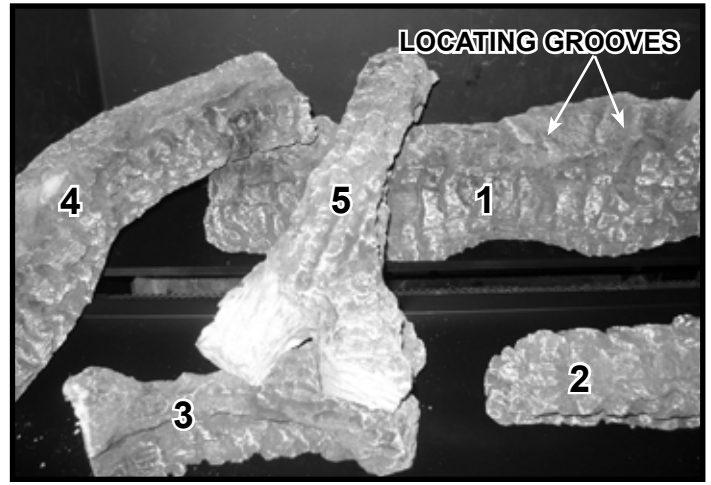

Figure 12. Log #5 (1st of 2)
**Log #5 (SRV2033-720):** Log #5 is used twice in this log set. The left log is located by placing the “Y-Shaped” end on the locating grooves of Log #3 and setting the other end on the flat area of Log #1. See Figure 9 to reference locations of flat areas and grooves. Figure 12 shows the left side Log #5 in position. The right side Log #5 is located by placing the “Y-Shaped” end on the locating grooves of Log #1 and setting the other end on the right side log #2. See Figure 12 and Figure 13. The log should be approximately 1-1/2 inch from the end of Log #2. See Figure 14.